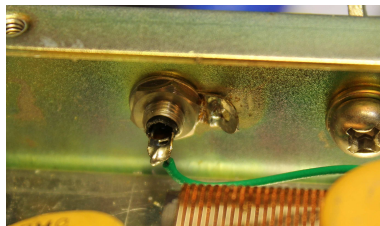

Figure 2.26: “RL CONT” to **TX** connection
- Route the **TX** wire and solder it to the center pin of the “RL CONT” RCA jack. See Figure 2.26